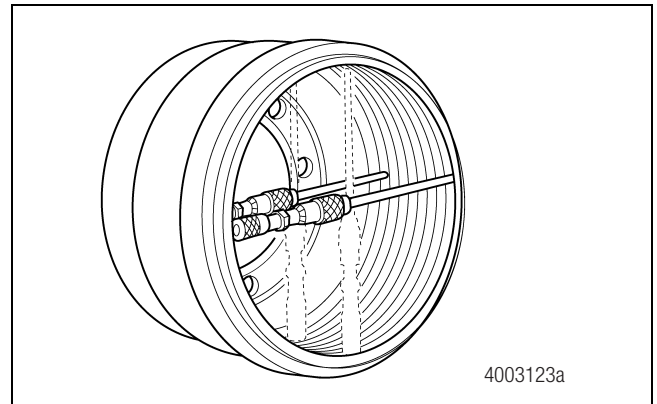

Figure 5.8
- B. Measure the inside diameter of the drum in several locations with a drum caliper or internal micrometer. Figure 5.8.